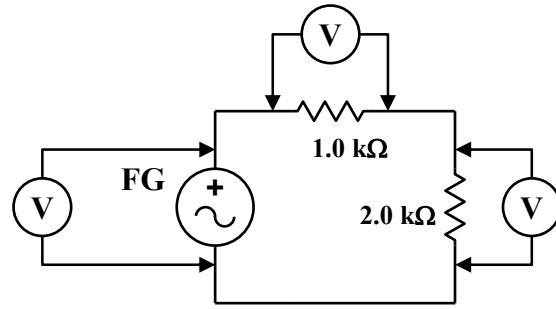

Figure 9.5
22. Using the DMM, measure the V_{rms} across both resistors (across the FG), and then across each resistor individually (*Figure 9.5*). Record in *Table 9-7*.